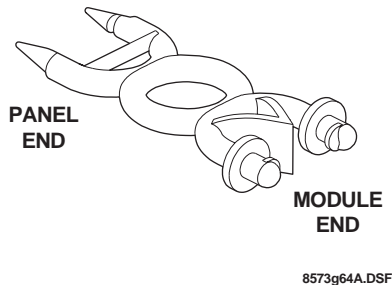

Figure 16. Support Standoff
- The panel includes two support standoffs you install to secure module backplates to the panel (see Figure 16).